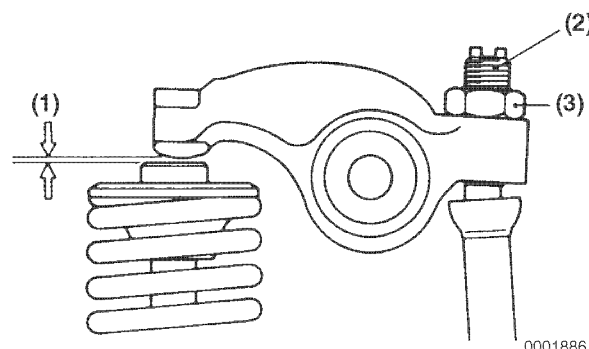

Figure 6-33
3. Check the valve clearance (**Figure 6-33, (1)**) using a feeler gauge. If adjustment is required, proceed to the next step. See *Valve Clearance* on page 6-5 for the specification.
4. Loosen the adjusting screw locknut (**Figure 6-33, (3)**). Turn the valve adjustment screw (**Figure 6-33, (2)**) to adjust the valve clearance so there is a slight "drag" on the feeler gauge when sliding it between the rocker arm and the valve cap. Hold the adjusting screw while tightening the valve adjusting screw locknut. Recheck the clearance.